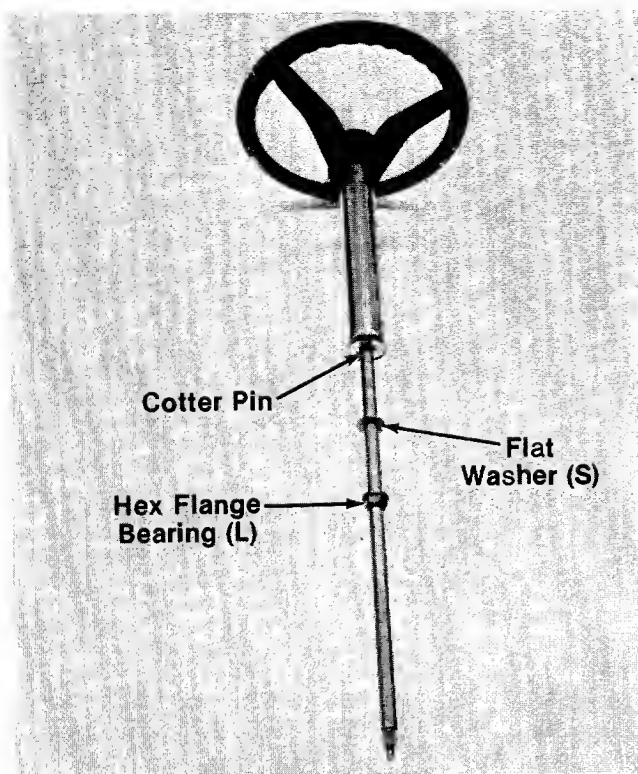

FIGURE 7.—Style A Only
7. **Style A only**—Slip flat washer (E) ($1\frac{1}{4}$ " diameter) on the **steering shaft** immediately below the cotter pin. Place one plastic **hex flange bearing (L)**, flat side up, below the washer. See figure 7.